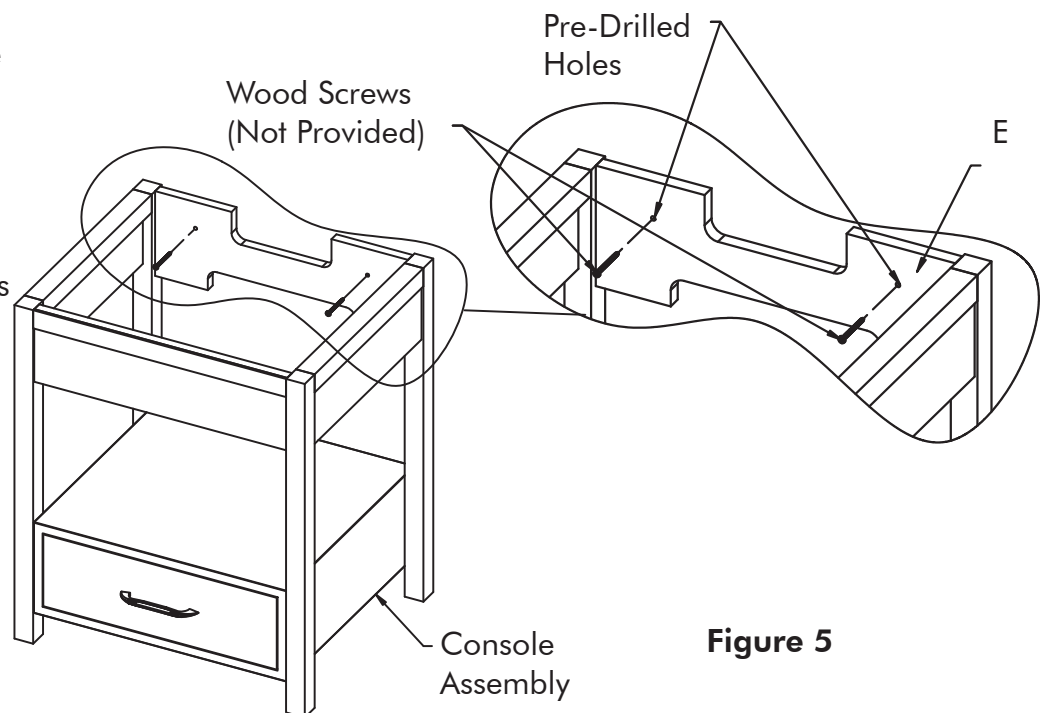

Figure 5
- It is recommended to locate at least one wall stud within area where the vanity is to be installed. Pre-drill holes through finished wall and wall stud. Fasten Vanity to Wall by drilling wood screws through pre-drilled holes in **Back Rail (E)**.
- Refer to figure 5.